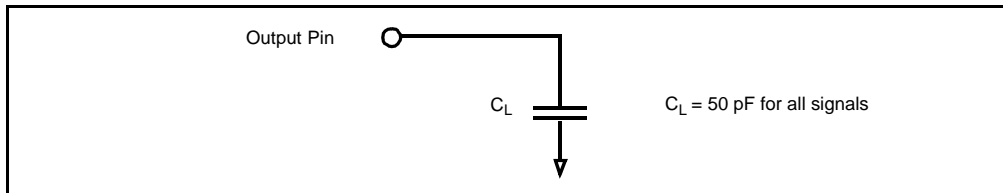
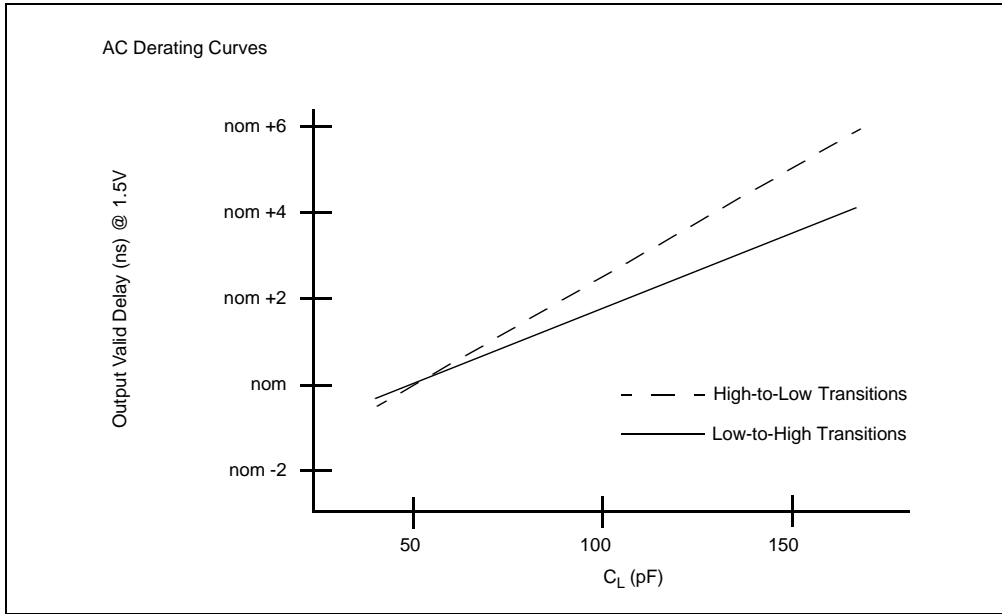
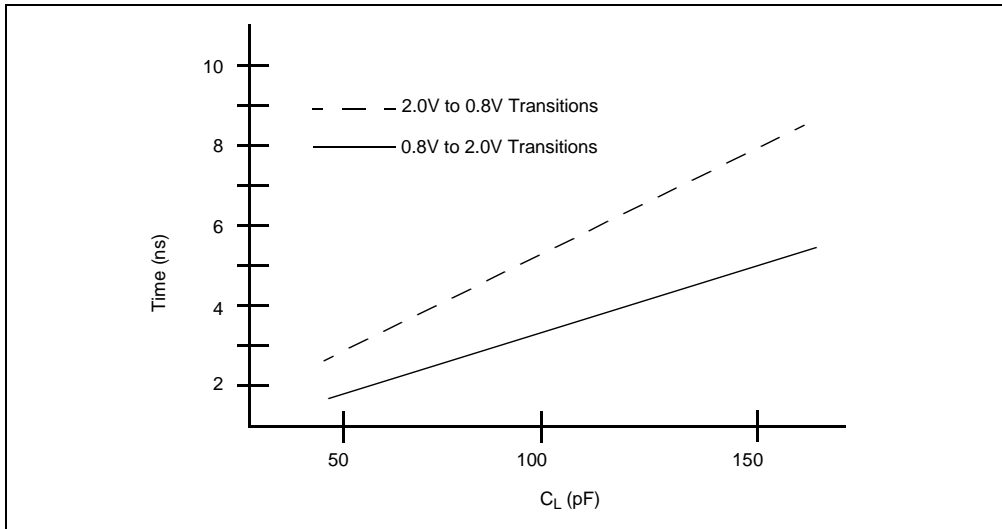

Figure 6. AC Test Load
Figure 7. Output Delay or Hold vs. Load Capacitance
Figure 8. Rise and Fall Time Derating
2. Measured with device operating and outputs loaded to the test condition in Figure 6, AC Test Load (pg. 25).
The AC Specifications in **Section 4.5, AC Specifications** are tested with the 50 pF load indicated in Figure 6. Figure 7 shows how timings vary with load capacitance; Figure 8 shows how output rise and fall times vary with load capacitance.